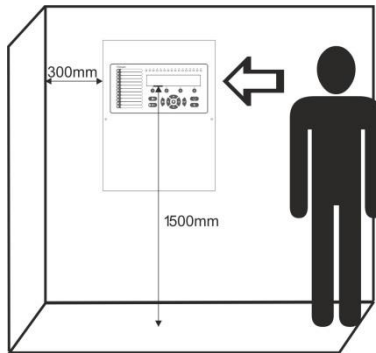

Figure 1
- The panel must be installed in a clean dry place and must not be subjected to impact or vibrations (Figure 1). It must be situated far from heating appliances. The temperature must be within -5°C and $+40^{\circ}\text{C}$. The fire panel is not waterproof!